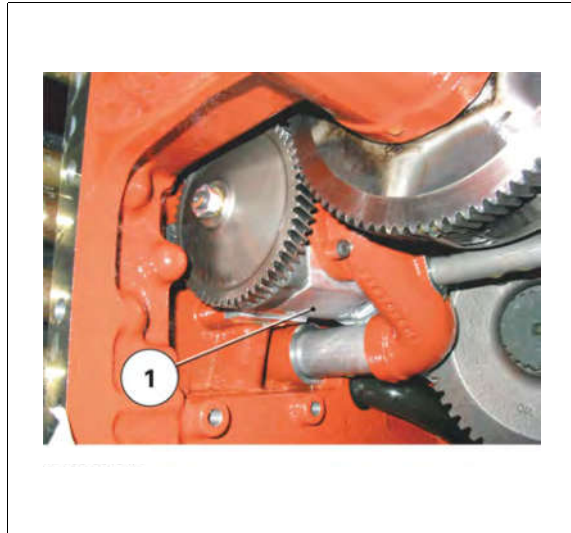

Fig. 1.
One or two 15 micron main filter(s) (39) (depending on option) and a clogging indicator (40) are fitted to the low flow rate system upstream of the Orbitrol steering spool valve. The hydraulic pump is driven by the ring gear of the PTO clutch unit (*fig. 1*).